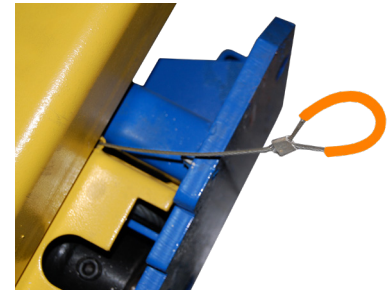

**Fig. 1**
4. Drill the hole for anchor bolt completely through the concrete. If an error is made during the installation of these anchors, this will allow for the anchor bolt to be driven down into the ground, so that a new anchor may be installed in place (fig.1).
- 5) Assemble the uprights to the columns on model HD2P-15000C. (See Fig. 1, page 21).
The safety latch mechanism will “Trip Over” as the lift raises and drop into each safety latch stop. To lock the lift you must press the lowering handle on the power unit (Fig. 1) to relieve the hydraulic pressure and let the safety locks engage into a level locked position.
Press the lowering handle Fig. 1 until the lift is completely lowered.
10. When lift reaches maximum height, a limit switch will come into operation and stop the lift. When lift has stopped, press and hold the lowering handle (Fig. 1) until load rests on level safety locks.
12. Lower vehicle by pressing the Up button to disengage the safety locks. Pull both latch releases to release (Fig. 2) the safety locks then press the lowering handle (Fig. 1) until the lift is completely lowered.